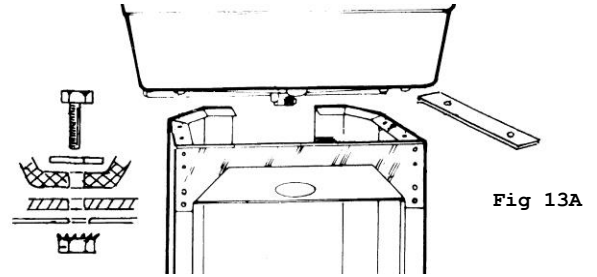

Fig 13A
**Step 3: Connect the Grill Head Bottom to Aluminum Column (A-B PED) (Fig. 13A)**